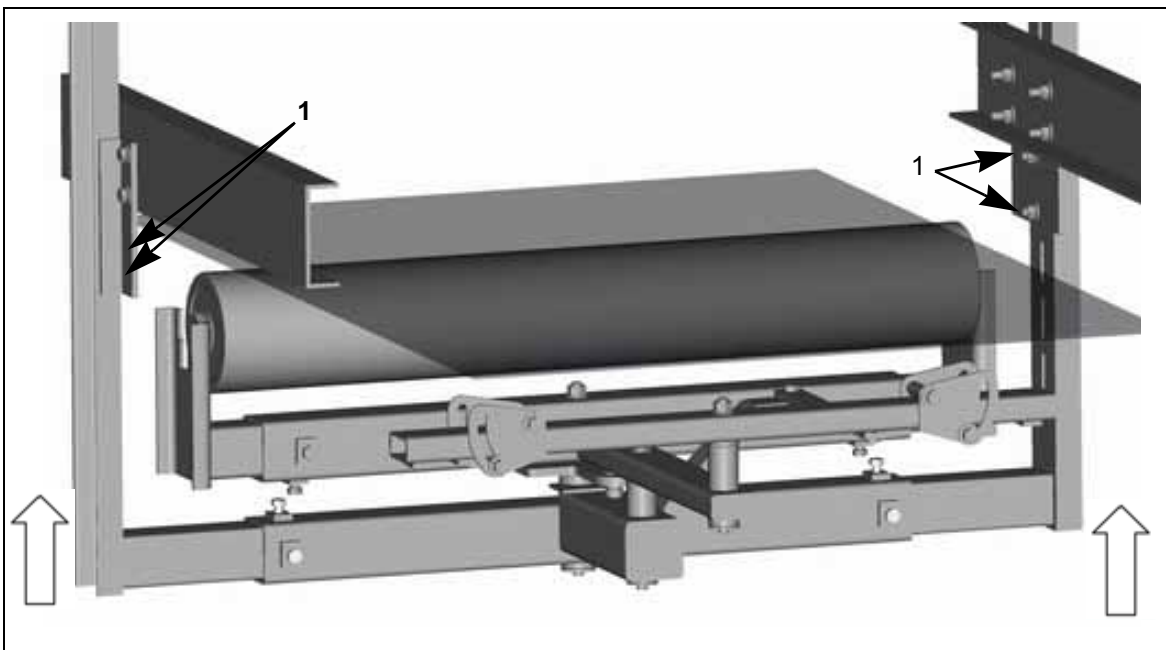

Fig. 11: Centring and securing the tracker
12. Centre the tracker on the frame and tighten the arresting screws (1, Fig. 11).